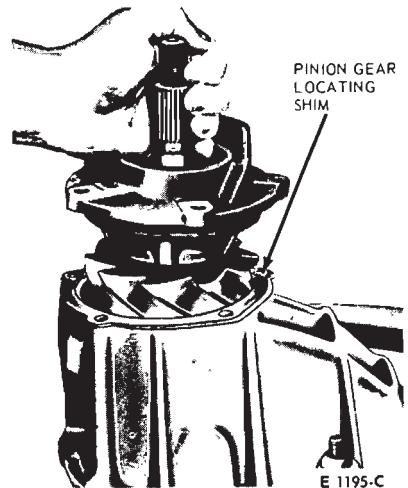

FIG. 40—Removing or Installing Pinion and Retainer Assembly
and retainer assembly, being careful not to pinch the O-ring (Fig. 40).
5. Place the proper shim on the carrier housing and install the pinion and retainer assembly, being careful not to pinch the O-ring (Fig. 40).